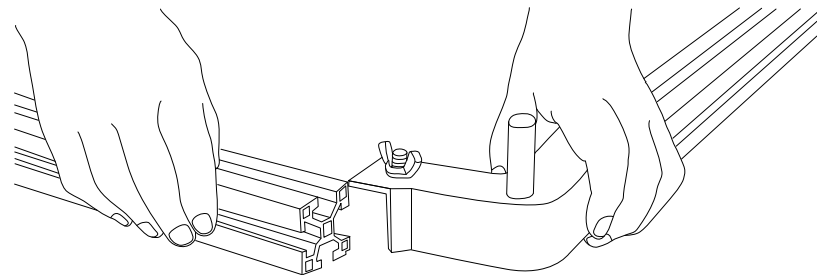

Fig. 1b
**Step 3:** Attach each corner connector (Item B) and tighten thumb screws. Fig. 1b (right)